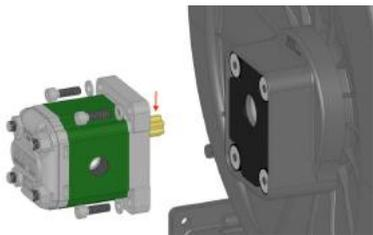

FIGURE 7
- Undo the four M6 cap screws securing the motor and remove it axially (FIGURE 7);